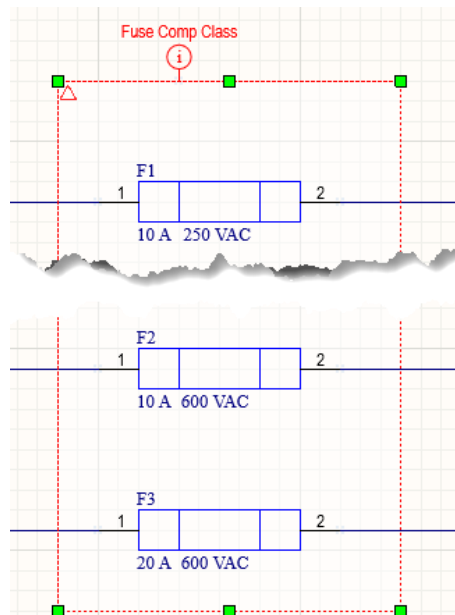

Figure 13. Blanket and Directive for Component Class
53. Select the menu option **Place » Directives » Blanket** and create a rectangle around the three fuses. Use Figure 13 as a reference.
55. Place the Directive as seen in Figure 13.